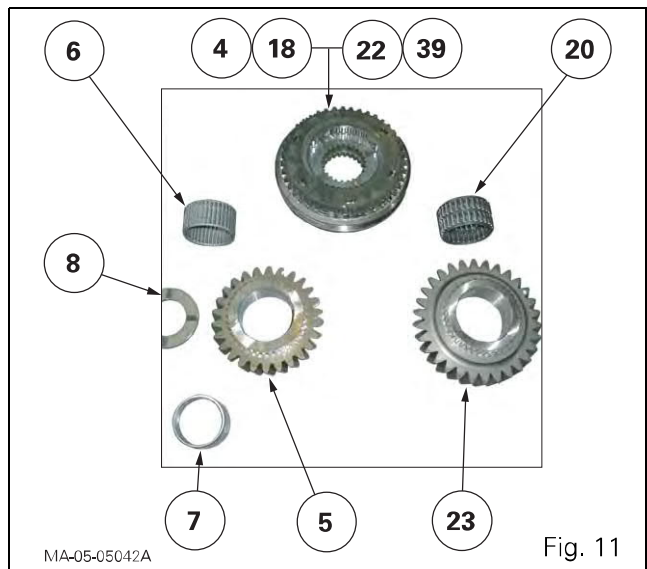
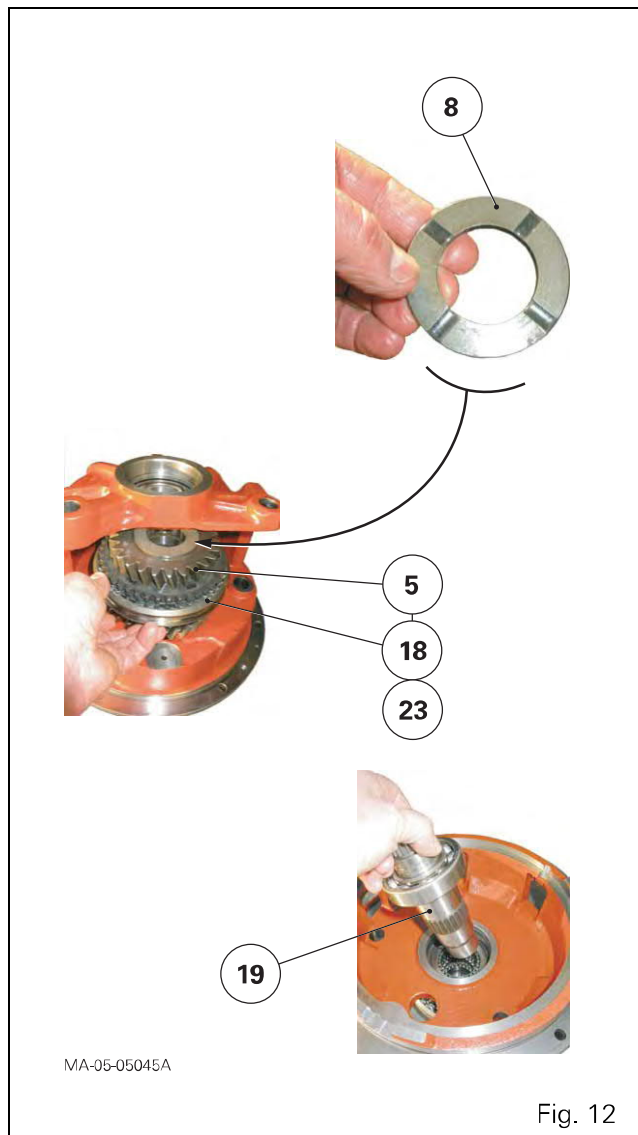

Fig. 11
Fig. 12
20. Assemble (Fig. 11):
- the gear (5)
- the ring (7)
- the needle roller bearing (6)
- the cones (brake) (4) and (39)
- the coupling flanges (22)
- the gear (23)
- the needle roller bearing (20)
21. Refit the ball bearing (9) in the housing.
22. Refit the gear (5) (23)/synchroniser (18) assembly and the washer (8) in the housing (Fig. 12).
Turn the lubricating grooves of the washer (8) towards the gear (5) (Fig. 12).
23. Position the washer centrally (8).
24. Insert the secondary shaft (19) (Fig. 12) into the gear/synchroniser (18) assembly through the bore in the front of the gearbox.
27. Position a makeshift sleeve (internal $\varnothing = 44$ mm; L = 32 mm) under the internal ring of the ball bearing (9).